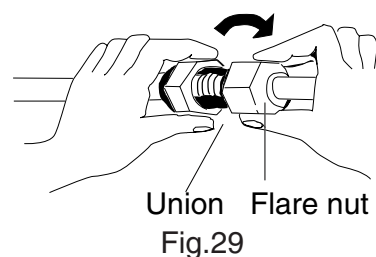

Fig.29
- For proper connection, align the union tube and flare tube straight with each other, then screw in the flare nut lightly at first to obtain a smooth match. (Fig.29)